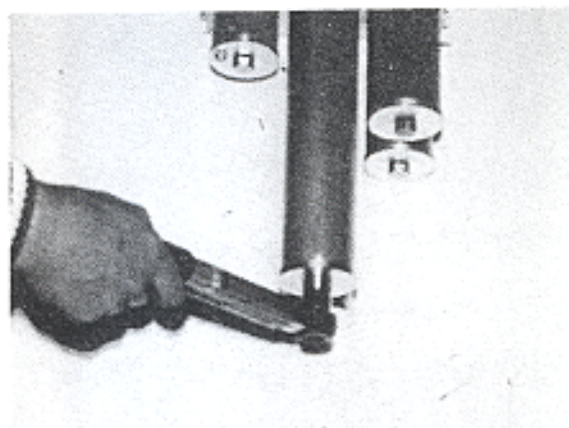

Fig. 17
- When mounting the filter cover the nut has to be tightened with a torque of 15 Nm (fig 17).